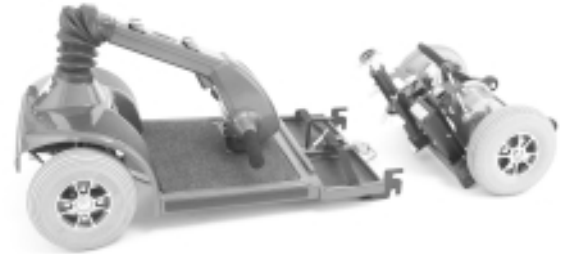

FIGURE 18. FRAME SEPARATION
2. Position the front and rear sections of your scooter as shown in figure 18.